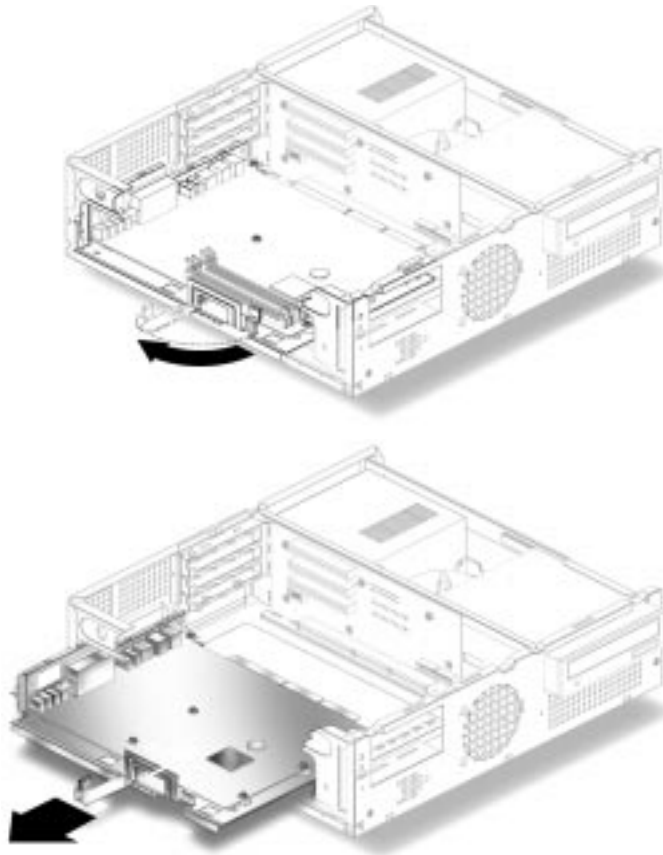

FIGURE 8-7 Removing and Replacing the Motherboard
2. **Pull the motherboard ejection lever away from the chassis to release the motherboard from the riser board connector (FIGURE 8-7).**
Replace the motherboard as follows (FIGURE 8-7).